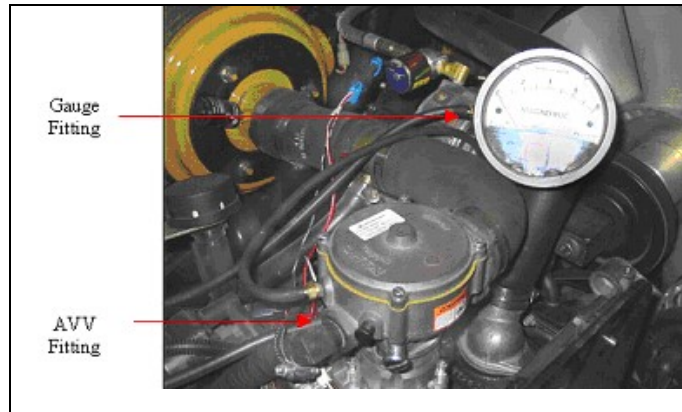

Figure 6-4. Magnehelic Gauge Connection
1. Install Union Tee fitting in the hose between the FTVs and the AVV fitting. Connect this fitting to the low pressure port of the Magnehelic gauge (Figure 6-4).